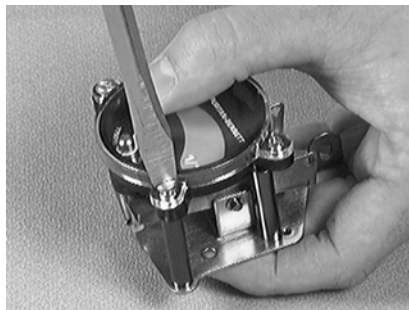

Figure 5-6
3. Use a medium-blade screwdriver to remove the four pan head screws **1** from the indicator **2**. Remove the four screws and the four upper spacers **6** from the indicator (Figure 5-6).